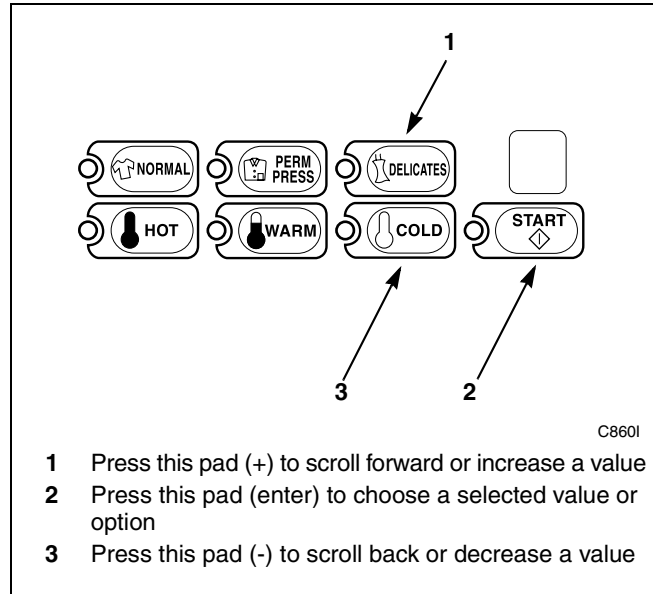

Figure 131
5. Press the DELICATES (+) or the COLD (-) keypad to increase or decrease the current number of minutes displayed in the VFD to the desired number of minutes. Refer to *Figure 131*.
**NOTE: The Normal Wash Agitate Time can be set from zero (0) to 15 minutes.**